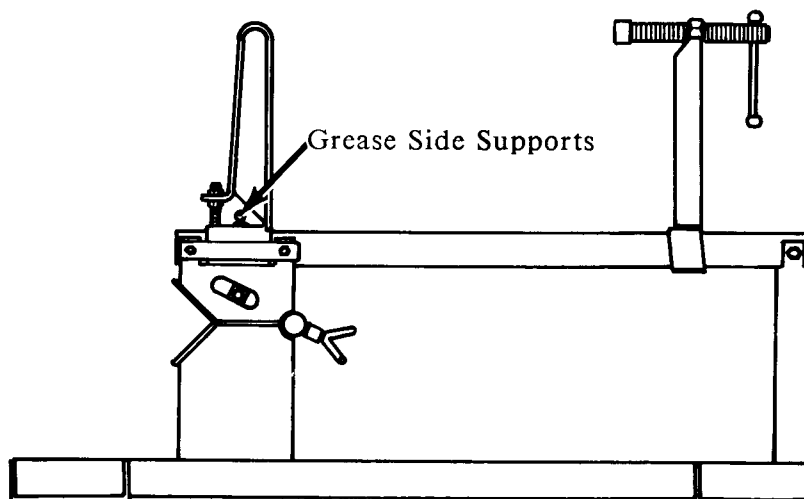

FIGURE 2
2. Grease the side supports (See Figure 2). Certain woods have high levels of acid in the sawdust that will react with steel, causing excessive wear. The grease is primarily for purging any sawdust out of the critical areas.